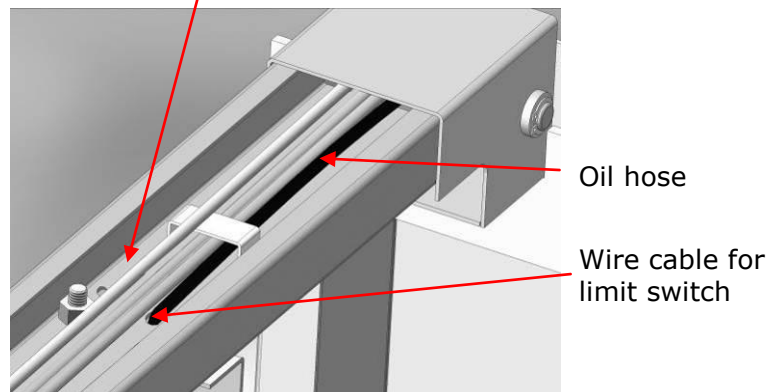

Fig. 32
2. Install safety cable, oil hose and protective cover (See Fig. 30 & Fig. 31 & Fig. 32).